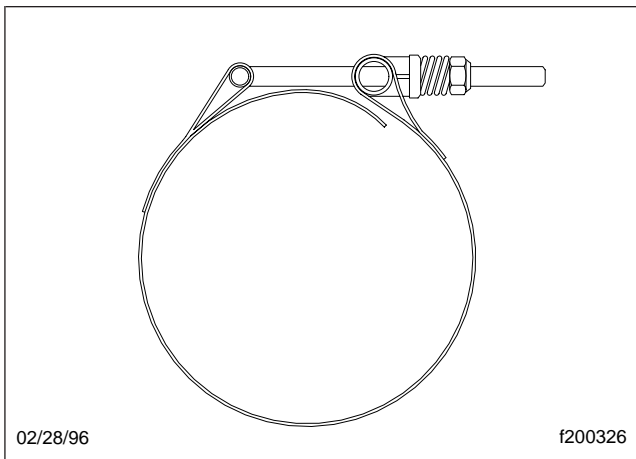
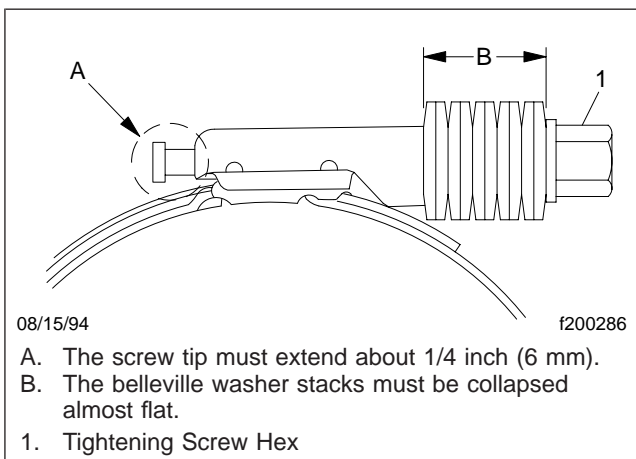

Fig. 1, T-Bolt Type Hose Clamp
Fig. 2, Breeze Constant-Torque Hose Clamp Installation
8. Connect the hoses. Your hose clamps can be either T-bolt clamps (see Fig. 1) or Breeze Constant-Torque clamps (see Fig. 2).